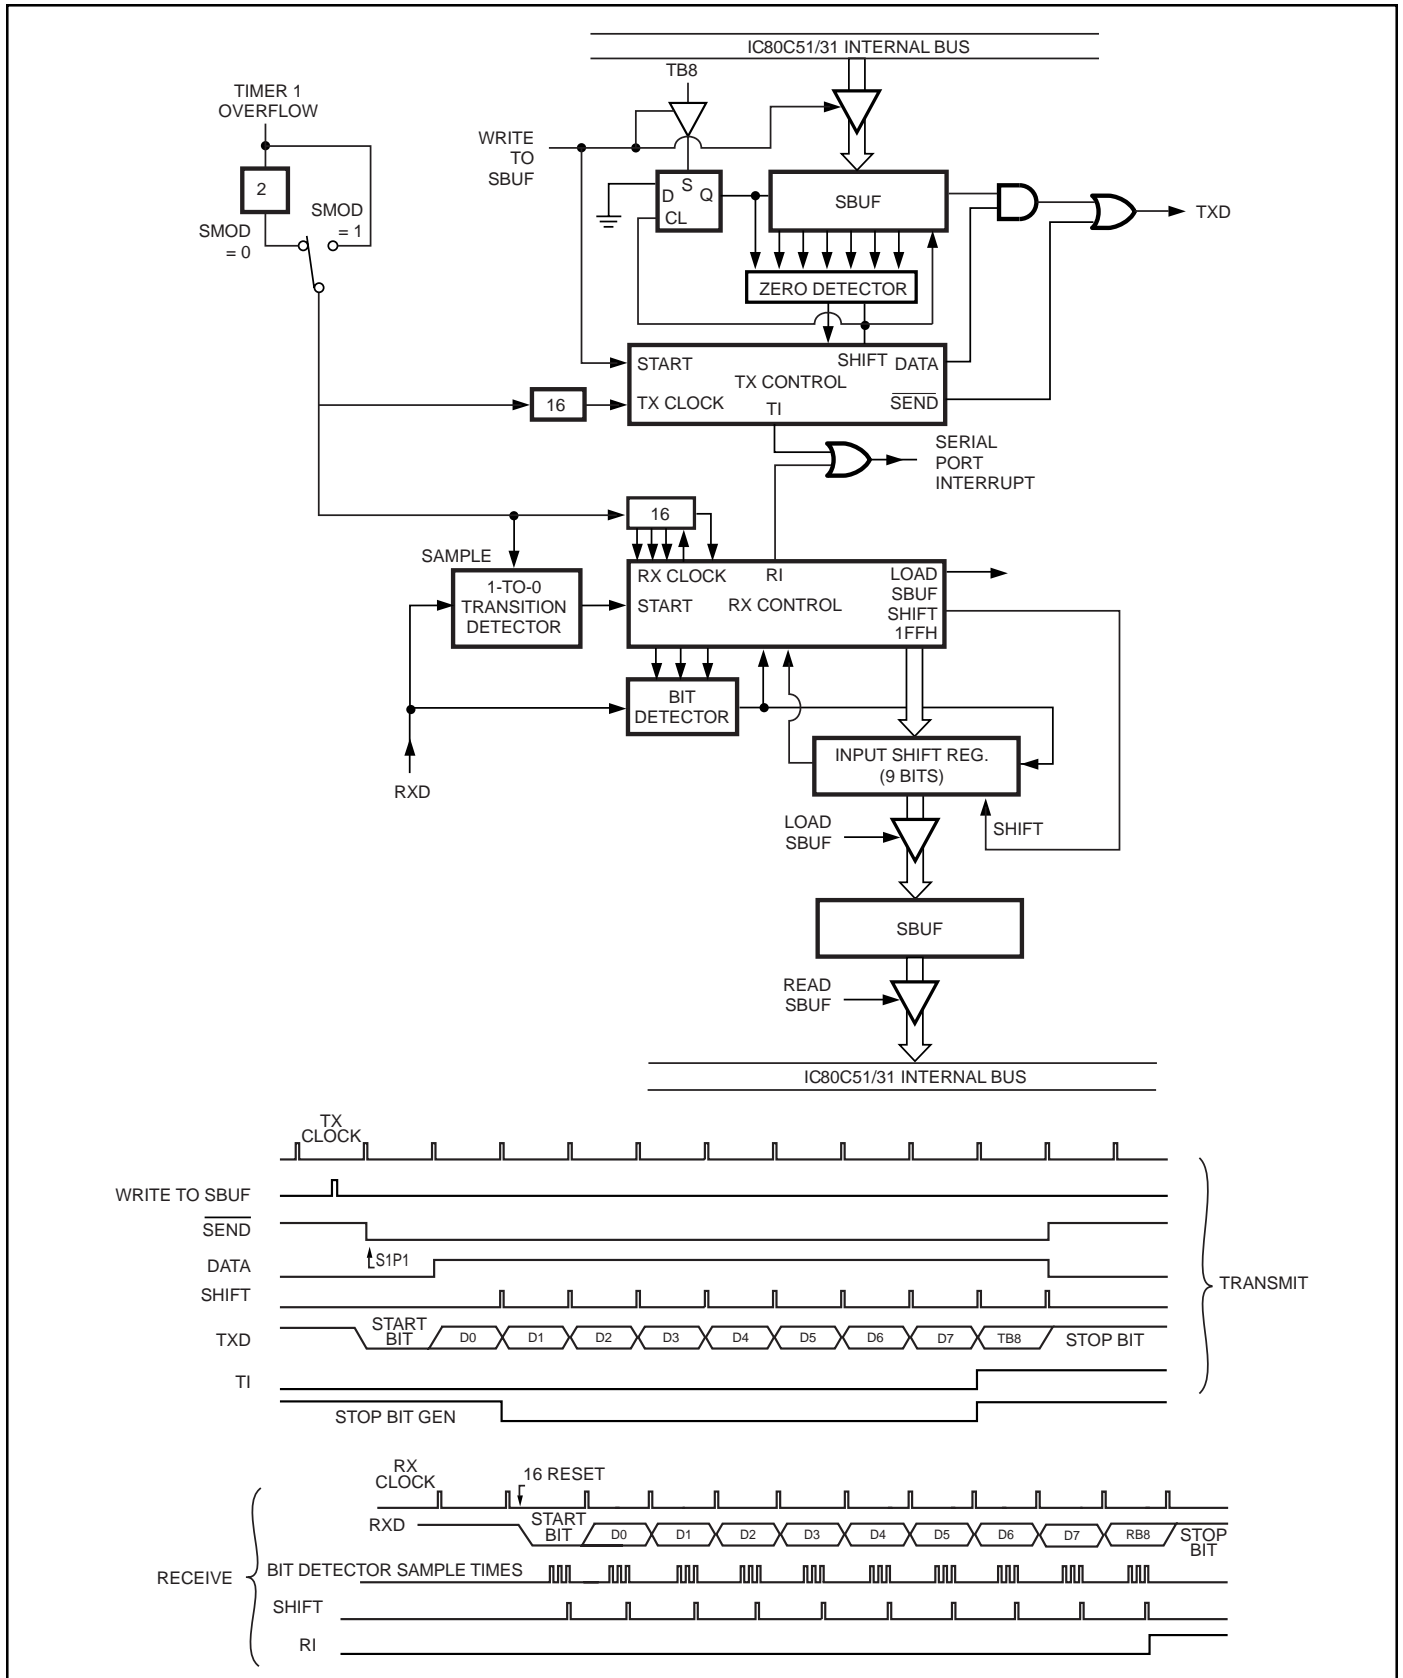

Figure 14. Serial Port Mode 3
Eleven bits are transmitted (through TXD) or received (through RXD): a start bit (0), eight data bits (LSB first), a programmable ninth data bit, and a stop bit (1). In fact, Mode 3 is the same as Mode 2 in all respects except the baud rate, which is variable in Mode 3 (see Figure 14).